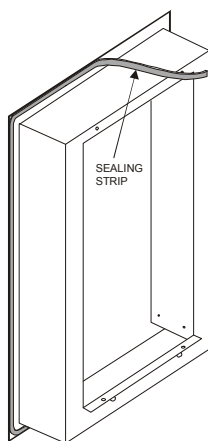
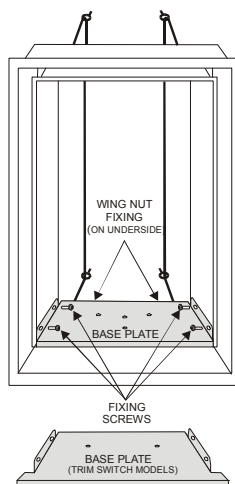

Figure 65
Figure 67
4. Remove the base plate (see **Figure 67**), then fit the sealing strip to the rear of the flange, as shown in **Figure 65**.
7. Refit the base plate using screws previously removed (see **Figure 67**).